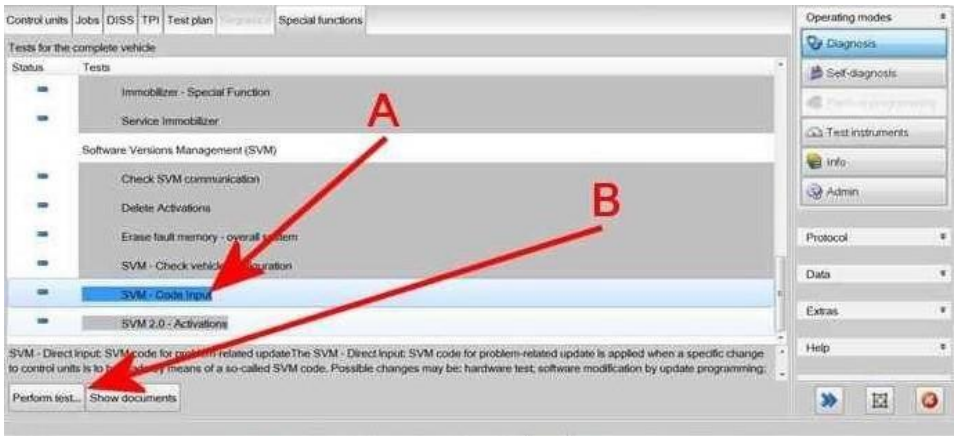

Figure 17
Referring to Figure 17 - Within the Special functions tab select SVM - Code Input (A) then select Perform test (B)